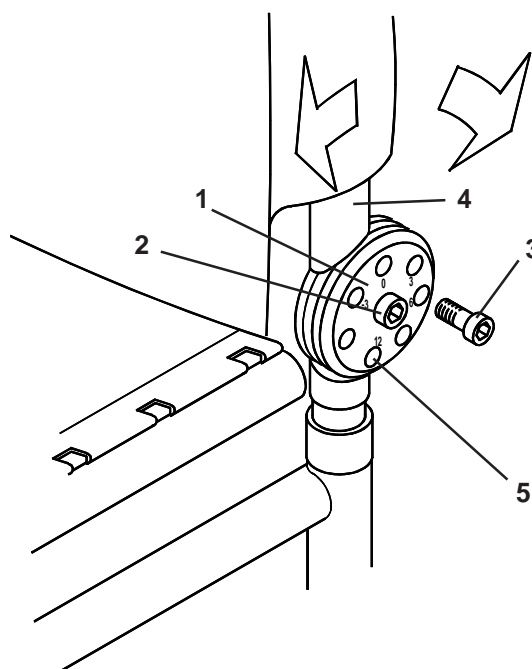

Fig. 31
The angle of the backrest (Fig. 31) can be adjusted through increments of 3° , between -3° to 12° , by using the backrest adjusting mechanisms (1) which are located on the upper rear frame tubes. Loosen the screw (2) and removing screw (3) using a 6mm Allen key (on both sides of the chair). Rotate the backrest (4) to the required position and replace the screw (3) into the hole which bears the appropriate marking in degrees (5). Tighten both screws to 24Nm torque.